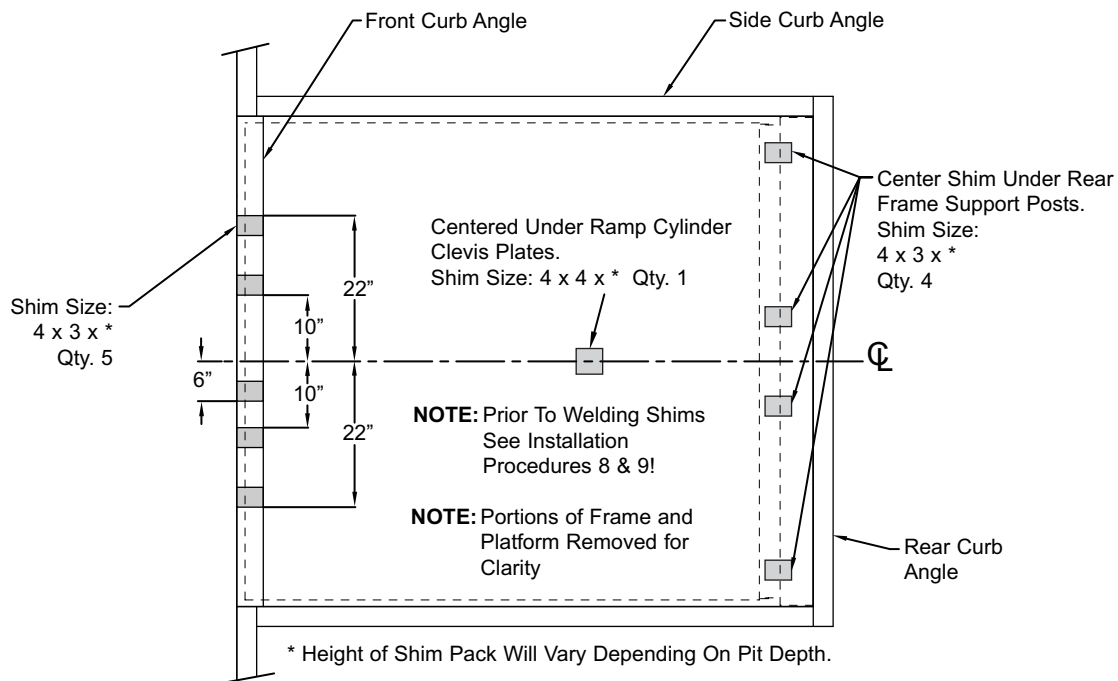

FIGURE 9 - SHIMMING DETAILS - RHH4000 (BASE) & HL900
**IMPORTANT:** For model specific shimming details see Figures 9 through 12.
**Mechanical leveler:** Be sure to shim underneath the snubbing cable mount on front frame angle. See Figures 9 through 14.
**Hydraulic leveler (Base & HL Only):** Place shims underneath the main cylinder clevis on frame as shown. See Figures 9 through 14.
**IMPORTANT:** Insure all shims are in place at this time. Tack shims together and to frame. See Figures 9 through 13.